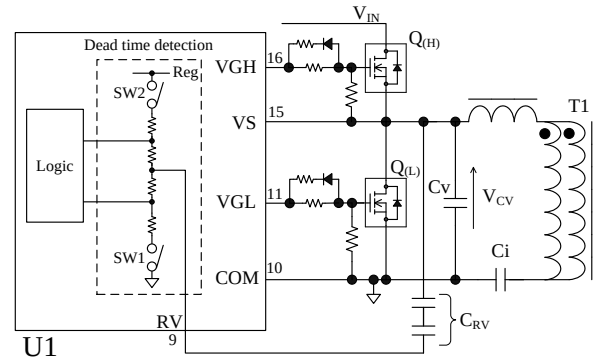

Figure 8-19. RV Pin Peripheral Circuit and Dead Time Detection Circuit
Figure 8-19 shows the RV pin peripheral circuit and the internal dead time detection circuit. The external components for this function is only high-voltage ceramic capacitor, C_{RV} , connected between the VS pin and the RV pin. The value of C_{RV} is about 5 pF.
After $Q_{(L)}$ turns off, SW2 is turned on while SW1 is kept on state. The resonant current flows through C_V , C_i and $T1$ (refer to Figure 8-19) and the C_V voltage, V_{CV} , increases from 0 V. When V_{CV} becomes Equation (11), the resonant current flows through the body diode of $Q_{(H)}$ and V_{CV} is clamped $V_{IN} + V_{F(H)}$. The period that until V_{CV} is clamped after V_{CV} starts to increase is defined as the voltage resonant period.
After $Q_{(H)}$ turns off, SW1 is turned on while SW2 is kept on state. The resonant current flows through C_V , C_i and T_1 (refer to Figure 8-19) and the C_V voltage, V_{CV} , decrease from the input voltage, V_{IN} .